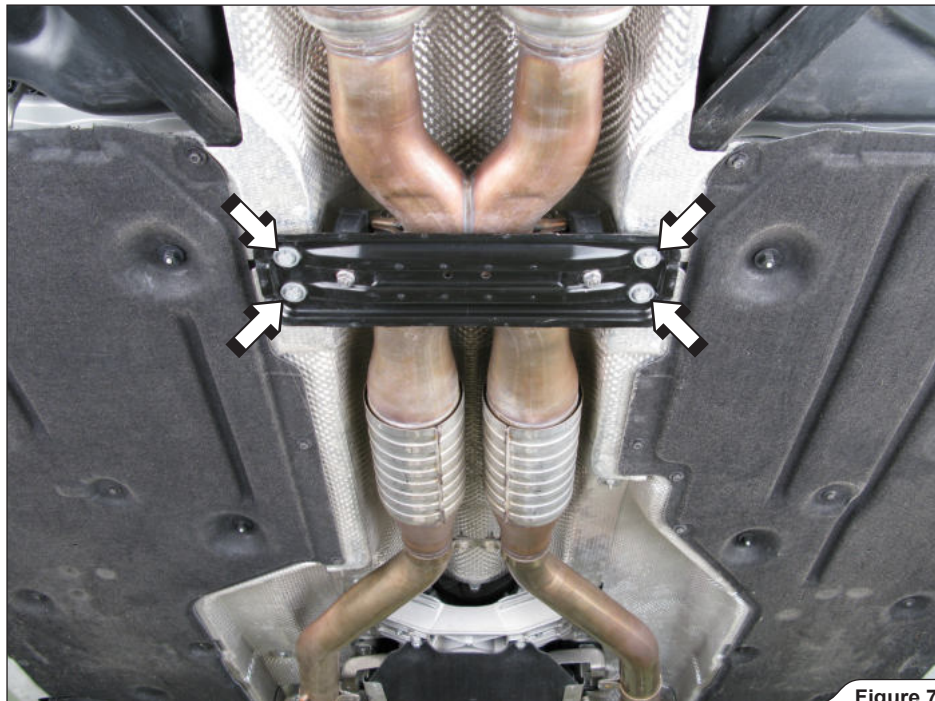

Figure 7
7. **For Evolution:** unscrew the marked bolts and remove stock middle pipes together with bracket (**Figure 7**).